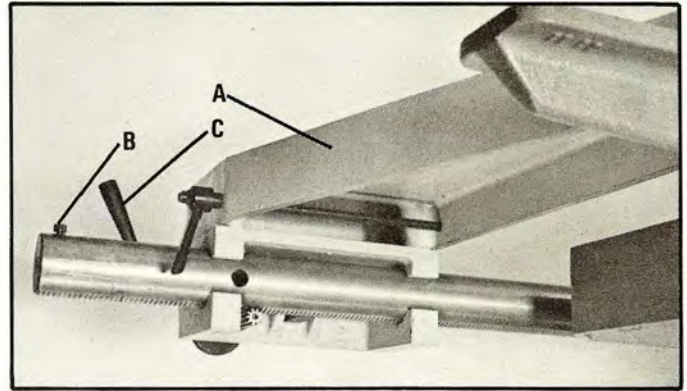

Fig. 13
2. Be sure clamp handle (C) Figs. 13 and 14, is loose and slide fence body (A) onto guide rail.
3. Replace stop screw (B) Fig. 13.